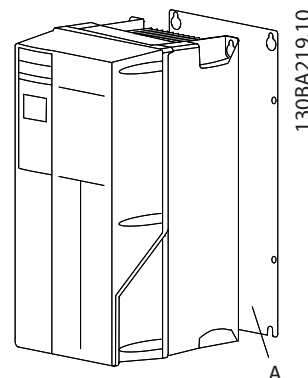
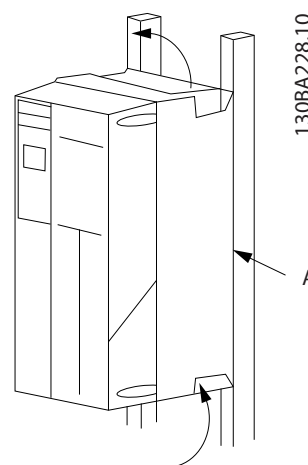

Figure 2.2 Proper Mounting with Backplate
Figure 2.3 Proper Mounting with Railings
- Mount the unit onto a solid flat surface or onto the optional backplate to provide cooling airflow (see Figure 2.2 and Figure 2.3)